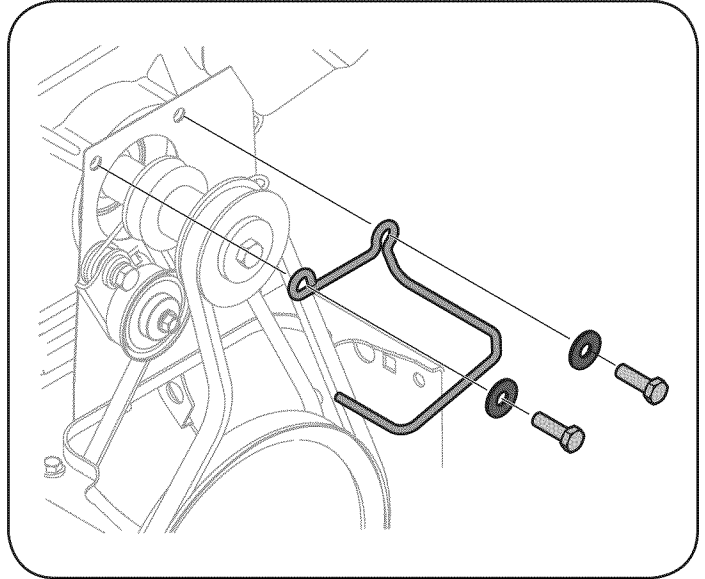

Figure 30
3. Loosen and remove the two bolts and flat washers securing the belt guide. See Figure 30. Remove belt guide.